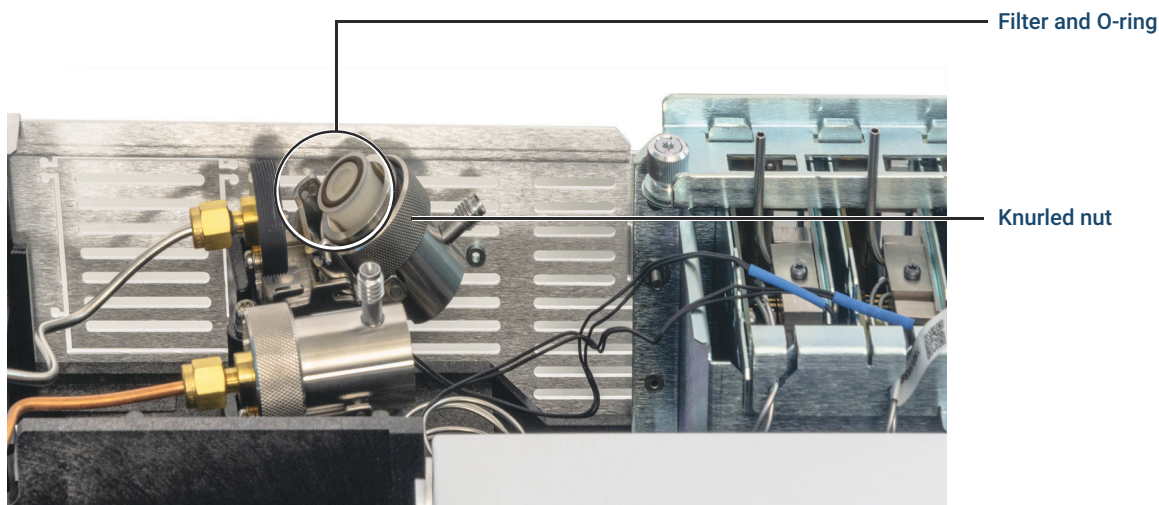

Figure 37. Slide trap assembly to expose the filter
5. Slide the trap assembly back from the guided mounting bracket and tilt up to expose the filter as shown in Figure 37.